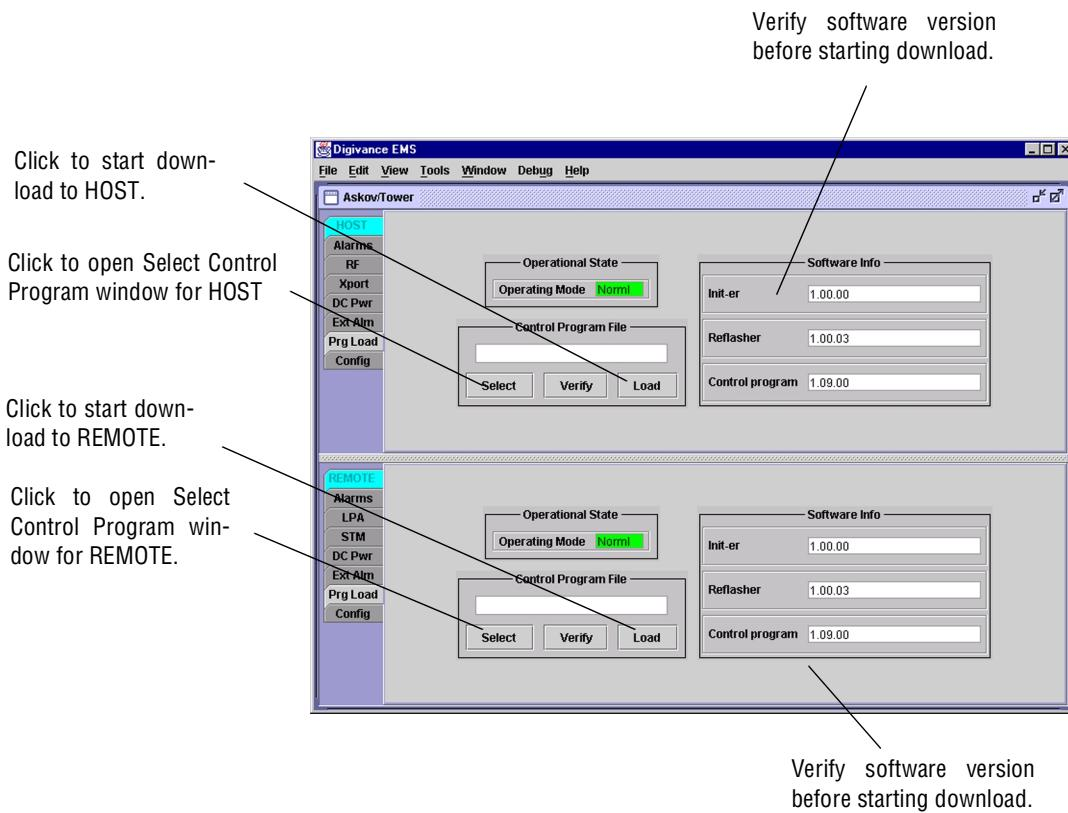
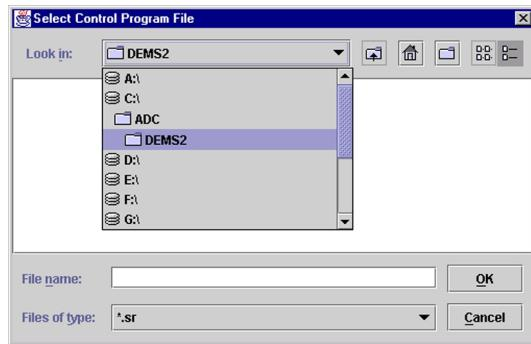

Figure 4-3. HOST and REMOTE Prg Load Displays
Figure 4-4. Select Control Program File Window
1. Click on the **HOST Prg Load** tab and on the **REMOTE Prg Load** tab. The **HOST Prg Load** display and the **REMOTE Prg Load** display will open within the EMS main window as shown in Figure 4-3.
2. Click on the **HOST Select** button (see Figure 4-3). The **Select Control Program File** window will open as shown in Figure 4-4. Browse until the folder where the Control Program files are located is selected and the software files are displayed in the window.
5. Click on the **HOST Load** button (see Figure 4-3) to start the download.